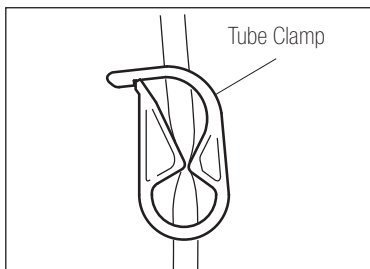

Fig.8
- 1) Close the Tube Clamp, between the Irrigation Tube Needle and the Irrigation Pump. (Fig.8)